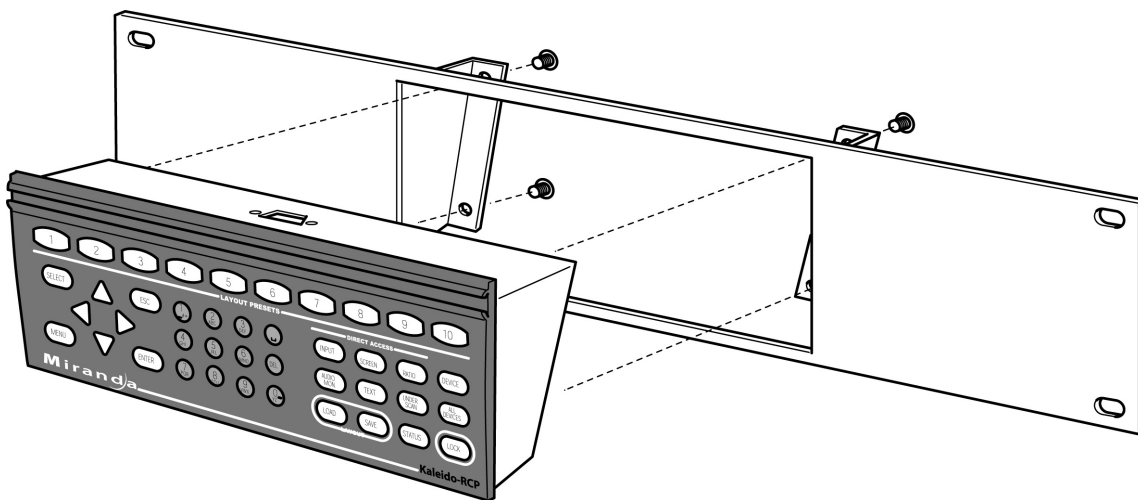

Figure 3.2.3 Installing Kaleido-RCP into mounting kit
- Place the Kaleido-RCP into the mounting bracket and secure it using the supplied screws (figure 3.2.3).